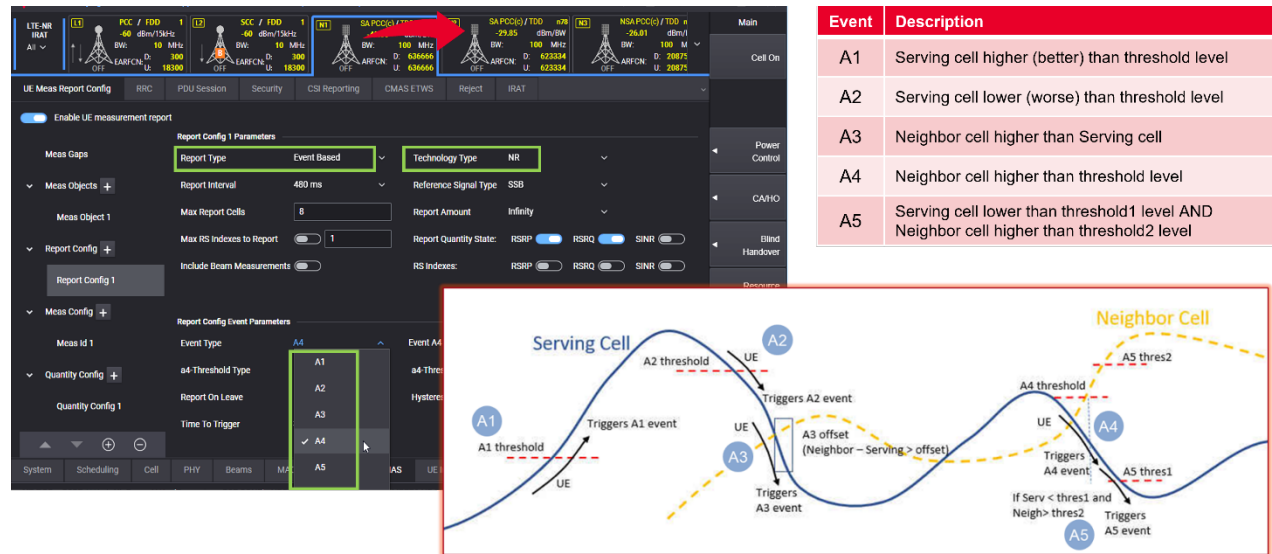

Figure 14. 5G NR SA-to-SA mobility scenario based on RRC events
- Perform SA-to-SA mobility scenarios based on Radio Resource Control (RRC) events (Figure 14)